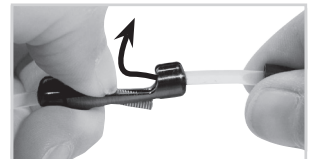

fig. 13
- 3 Take the free end of the pulling cable with threaded sleeve out of the holder (fig. 13).